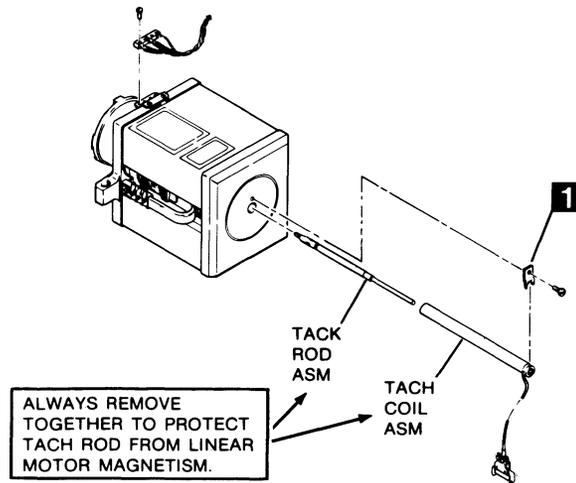

FIGURE 4-23. TACH RETAINING SCREW AND CLIP
3. Move carriage to its fully retracted position. Do not remove tach rod (Figure 4-23), now protruding beyond rear of tachometer. The tach rod is brittle and must be handled with care to avoid breakage.
5. Remove screw and clip, **1** in Figure 4-23, on rear center of linear motor.